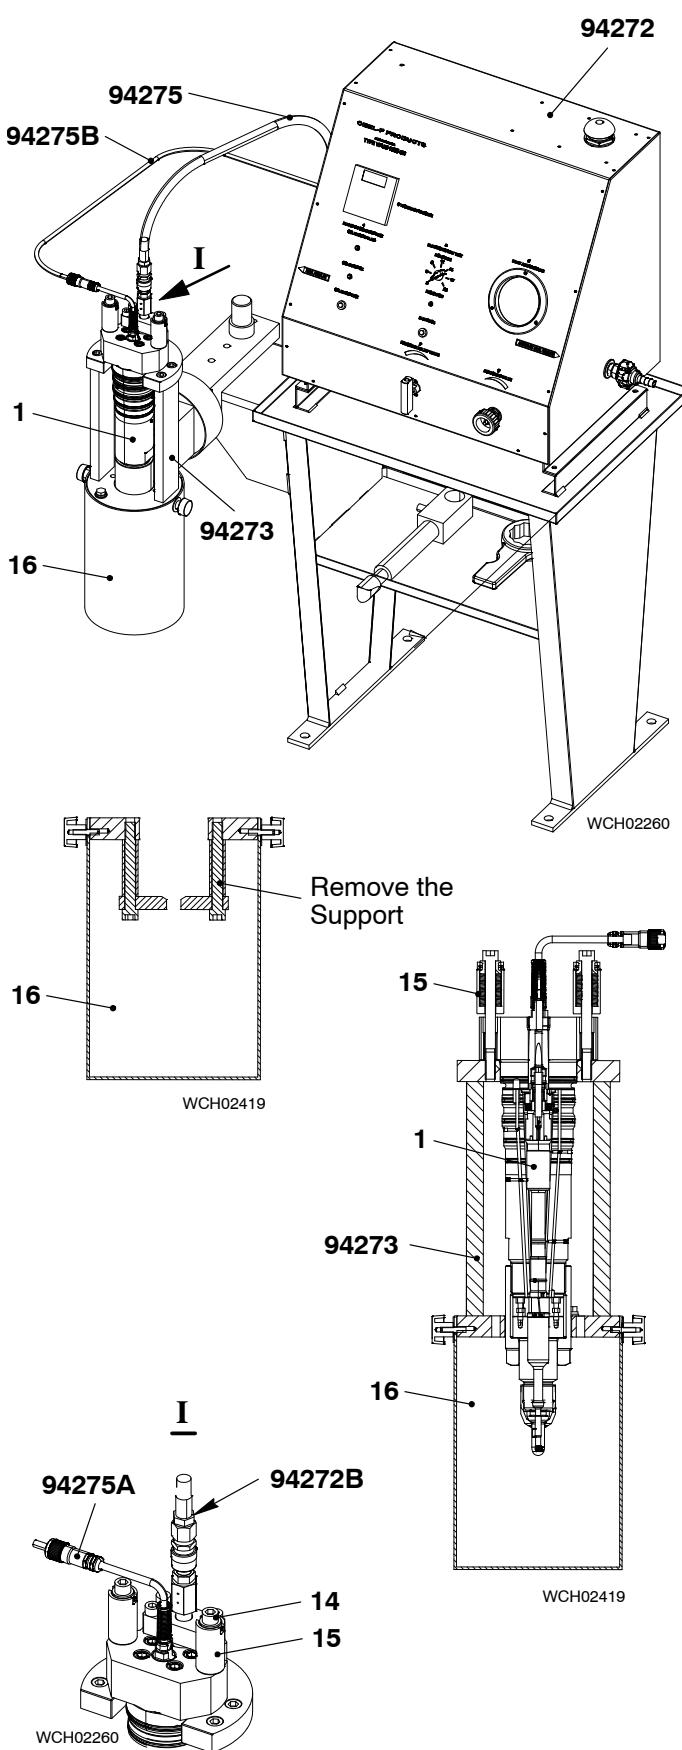

Fig. 1
- 3) Make sure that the support is removed from the valve holder 94273 (see Fig. 1).
- 6) Attach the injection valve to the valve holder with the spring cages 15 and Allen screws (14).